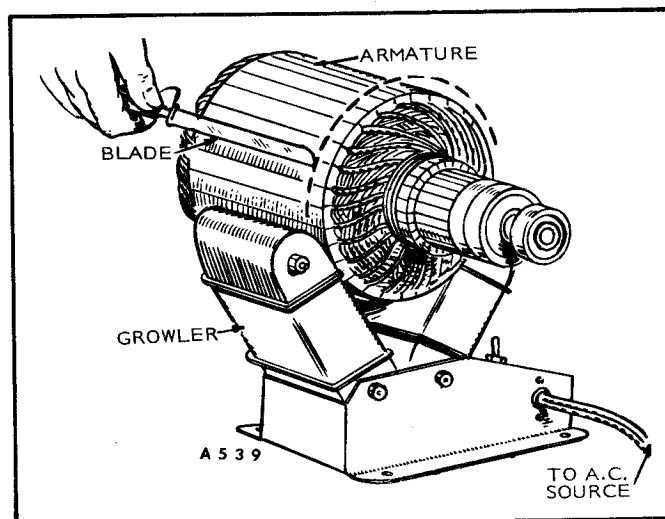

FIGURE 3-23. CHECKING FOR SHORTS
4. This test can only be performed with the generator disassembled and requires a growler. Place the armature in the growler, operate the growler and pass a steel strip back and forth above the armature windings (Figure 3-23). If the strip is magnetically attracted to the armature at any point, a short is indicated. After testing in one position, rotate the armature slightly and repeat the test. Do this for one complete revolution.